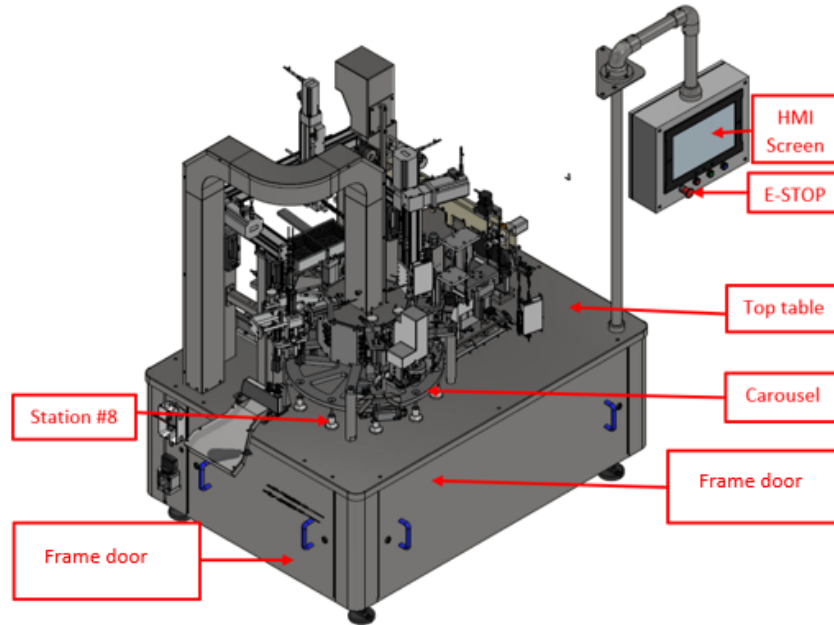
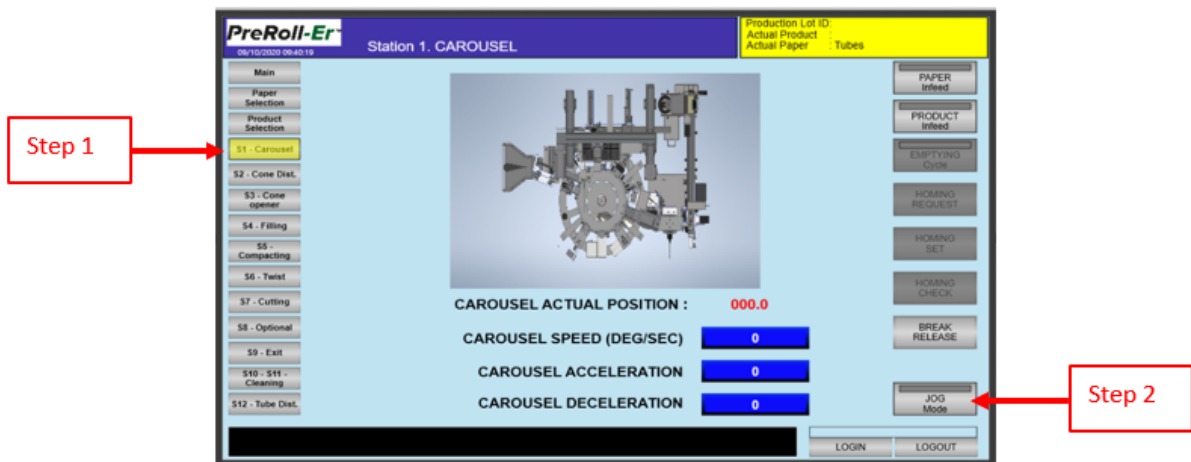
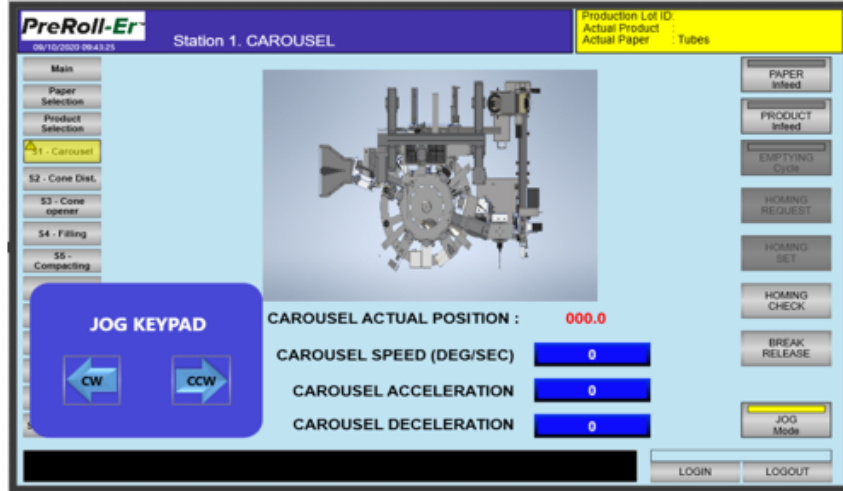
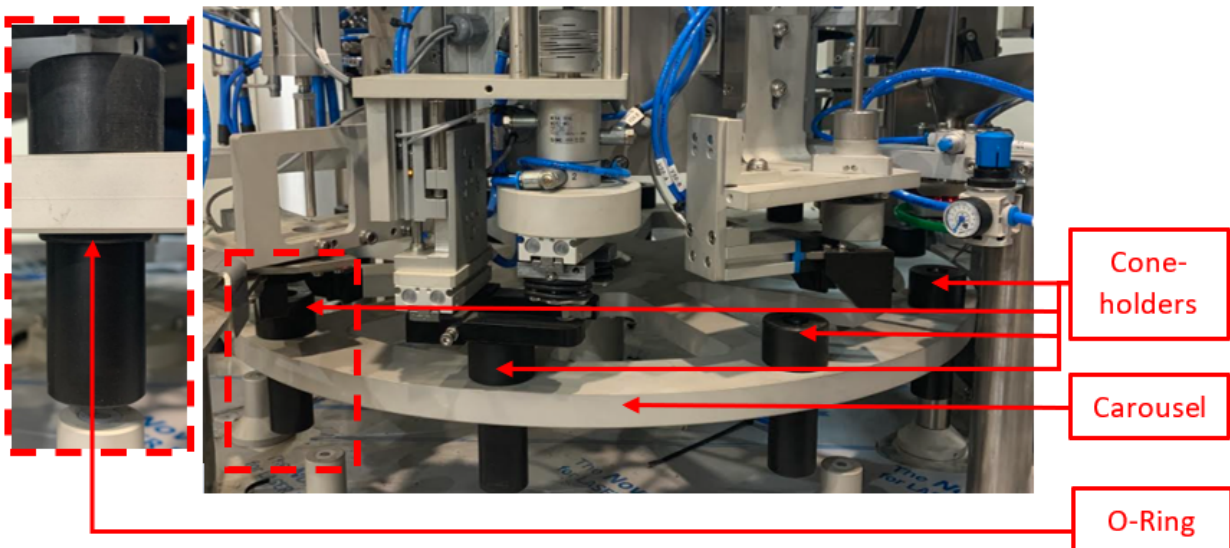

Figure 5-14 The PreRoll-Er™ overall layout
Figure 5-15 JOG mode selection
Figure 5-16 JOG mode display
Figure 5-17 Cone-holders position
- 1- Twist the red knob clockwise (right) to release the Emergency-Stop (E-Stop) as shown in Figure 5-14.
- 2- Press and hold the Reset button (the blue button) for about three (3) seconds, release the Reset button, then repeat the procedure for the second time.
- 3- Open the side door (under station #5) using the provided key as shown in Figure 5-14
- 4- On the HMI screen, select JOG Mode by following the two (2) steps as shown in Figure 5-15. JOG mode screen is displayed as shown in Figure 5-16.
- a. Use the JOG Keypad (see Figure 5-16) and select between (CW or CCW) to rotate the carousel and position the cone-holder to remove; in Station #8; as shown in Figure 5-14.
- b. Use the O-ring removal tool, to remove the O-ring from the cone-holder as shown in Figure 5-17.
- d. Repeat this procedure from step (a) for the ten (10) cone-holders.
- 6- Use a vacuum cleaner to vacuum any accumulated dust on all the surface of the top table as shown in Figure 5-14. and wipe off any dirt.
- a) Use the JOG keypad (see Figure 5-16) and select between (CW or CCW) to rotate the carousel and align the hole on the Carousel down the center of the rod to clean.
8- Push the red knob of the Emergency-Stop button (E-Stop) as shown Figure 5-14.
Note: For the rods of station #9 and station #10, use the side door under the exit station (Station #9) as shown in Figure 5-14.
- 12- Twist the red knob clockwise (right) to release the Emergency-Stop (E-Stop) as shown in Figure 5-14